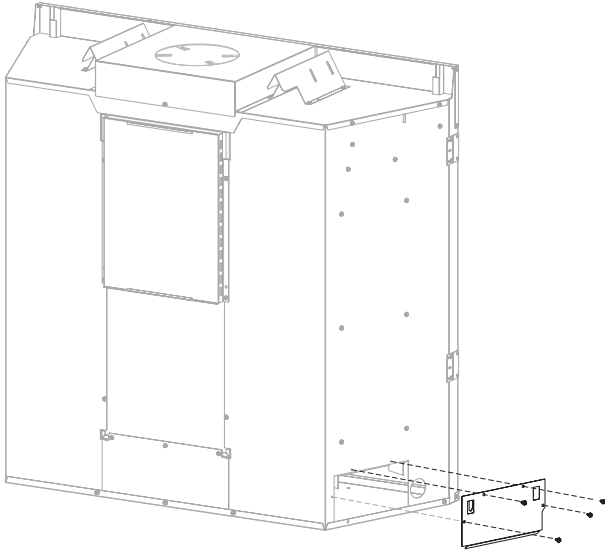

Figure 1
1. With Power completely turned off, Remove plate and four screws from right panel. **See Figure 1.**